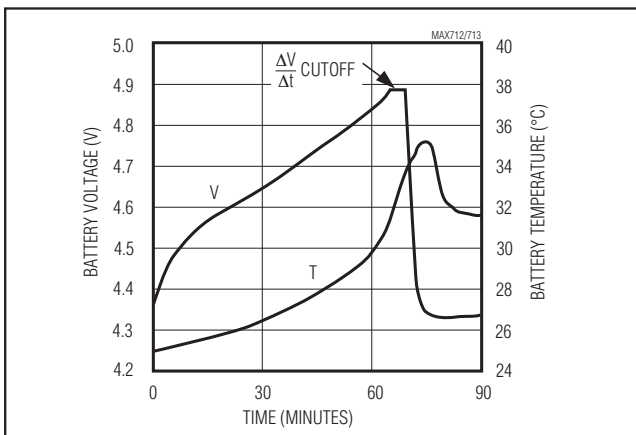

Figure 13. 3 NiMH Cells Charged with MAX712
Figures 13 and 14 show the results of charging 3 AA, 1000mAh, NiMH batteries from Gold Peak (part no. GP1000AAH, GP Batteries (619) 438-2202) at a 1A rate using the MAX712 and MAX713, respectively. The *Typical Operating Circuit* is used with Figure 9a's thermistor configuration.